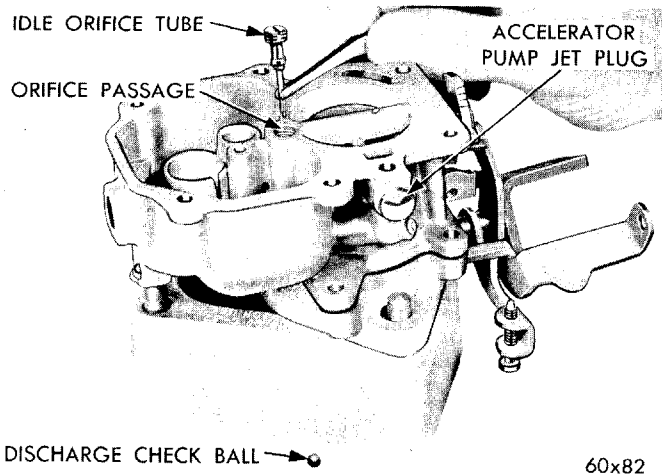
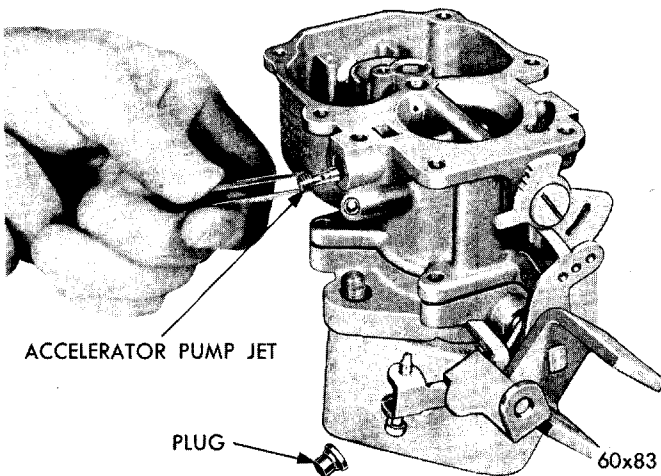

Fig. 8 — Removing or Installing Idle Orifice Tube
Fig. 9 — Removing or Installing Accelerator Pump Jet
(11) Unscrew and remove the idle orifice tube, as shown in Figure 8.
(12) Invert the carburetor and drop out the accelerator check ball from the discharge passage.
(13) Using Tool T109-43 plug remover, remove the accelerator pump jet plug. Using Tool T109-59T, remove the accelerator pump jet, as shown in Figure 9.
(14) Unscrew and remove the idle mixture adjusting screw and spring.
(11) Install the accelerator pump jet, as shown in Figure 9. Tighten securely, using Tool T109-59T. Install a new plug and drive tightly in place.
(12) Install the idle orifice tube, (refer to Figure 8). Tighten securely.